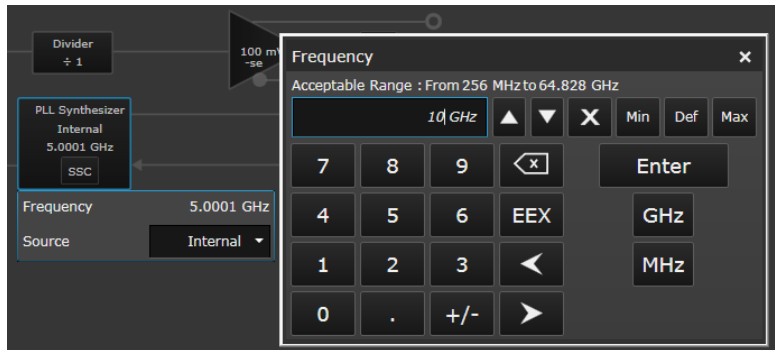

Figure 20 Set frequency to 10 GHz
- d Using the numeric keypad, enter **10** then click on the **GHz** button as shown in **Figure 20** on page -51. If your system has a maximum data rate of 8 Gb/s, leave the frequency setting at 5 GHz.